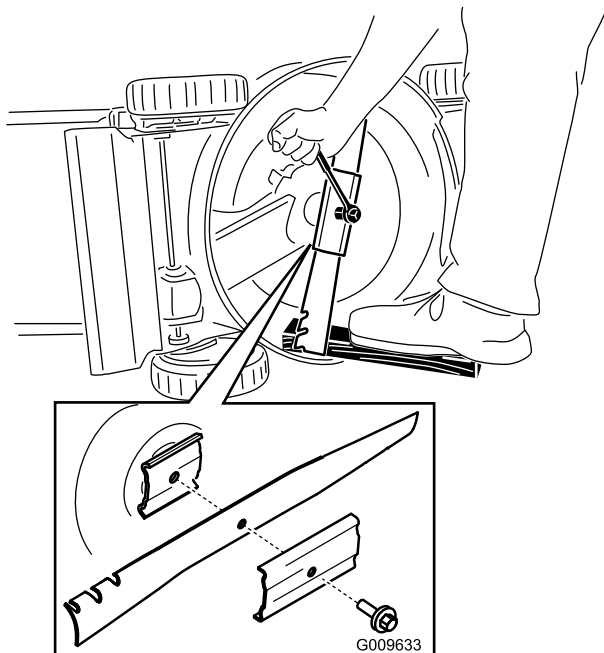

Figure 51
3. Use a block of wood to hold the cutterblade steady (Figure 51).